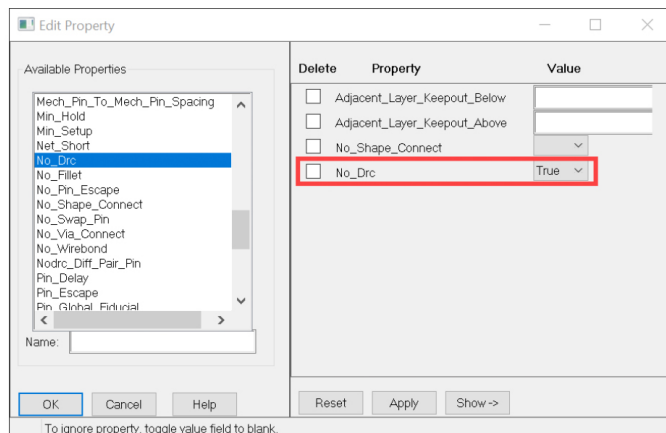

Figure 17: Adding the “NO\_DRC” Property to the pins from the Edit Property dialog box.
- Add the “NO\_DRC” property to the pins (Figure 17)